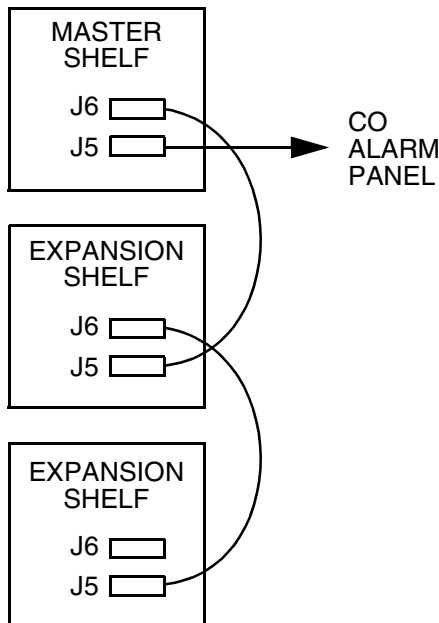

Figure 19. Alarm Cable Connections
5.19 Figure 19 shows the connectors used in a standard multishelf system configuration.